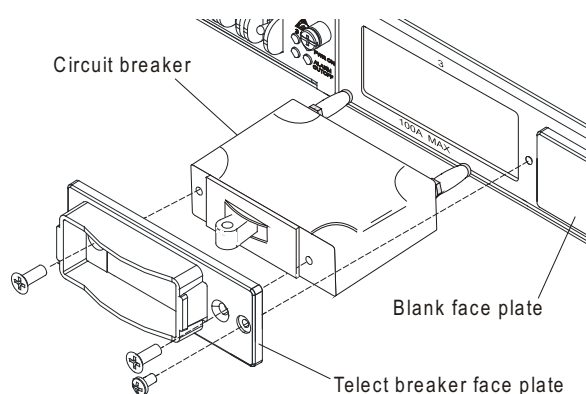

Figure 9 - Installing Circuit Breakers
16. Before installing breakers, screw the face plates to the breakers using two of the three screws provided with each face plate, as shown in Figure 9.